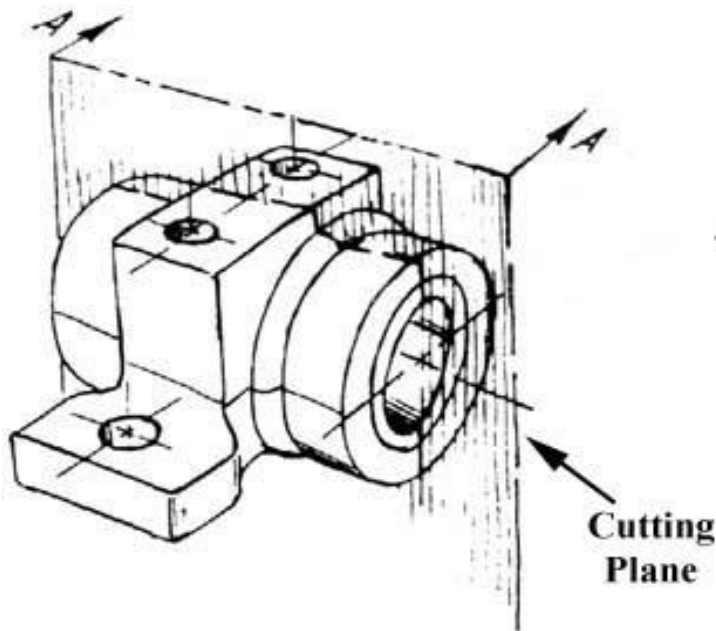
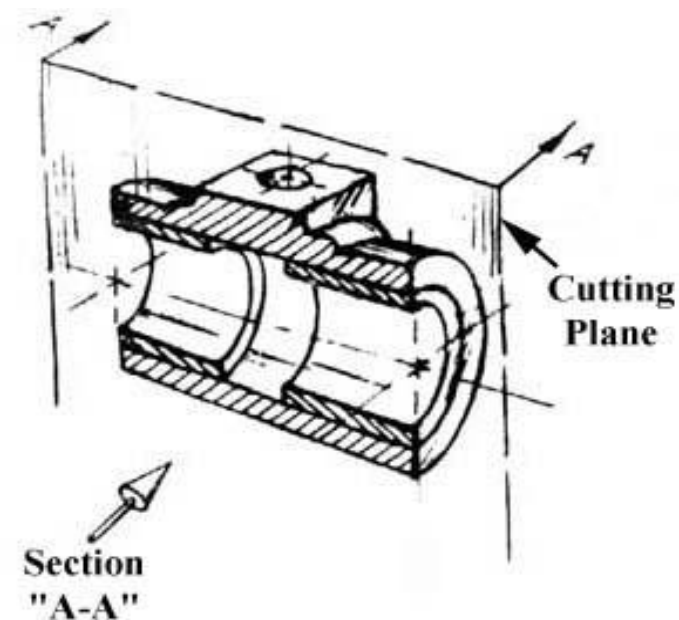

Figure 15 - Pillow Block
Figure 16 - Pillow Block
- Imagine a plane that cuts vertically through the center of the pillow block as shown in figure 15. Then imagine removing the material from the front of this plane, as shown in figure 16.